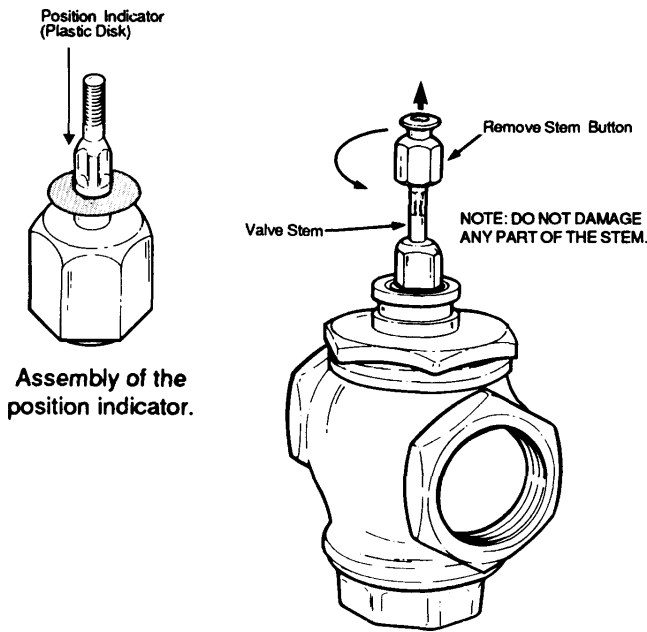

FIG. 3 — PREPARATION FOR VALVE ASSEMBLY
3. Remove the stem button (Fig. 3) from the valve stem. Save the set screw inside the stem button for later installation. The button itself is not needed.
4. Slide the position indicator (plastic disk or rubber Oring) over the valve stem. (See inset, Fig. 3) Indicator will self-align to the marking on the yoke after complete operating cycle.